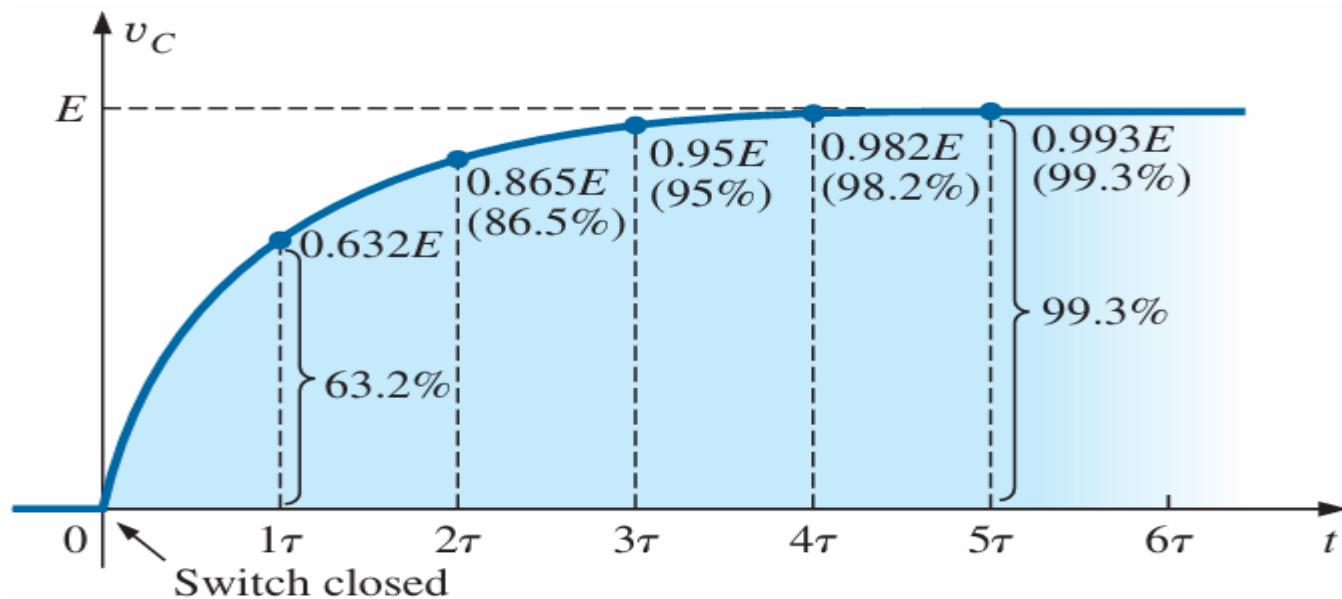

FIG. 29
as appearing in the plot in Fig. 29.
It is important to realize at this point that the plot in Fig. 29 is not against simply time but against τ , the time constant of the network. If we want to know the voltage across the plates after one time constant, we simply plug $t = 1\tau$ into Eq. (13). The result is
as shown in Fig. 29.